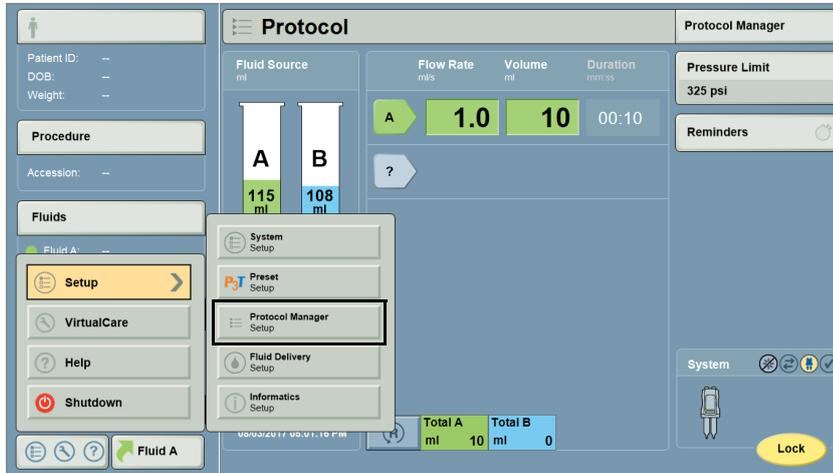

Figure 13 - 5: Setup Categories (Protocol Manager Setup)
2. Select **Protocol Manager Setup** (Figure 13 - 5: Setup Categories (Protocol Manager Setup)).